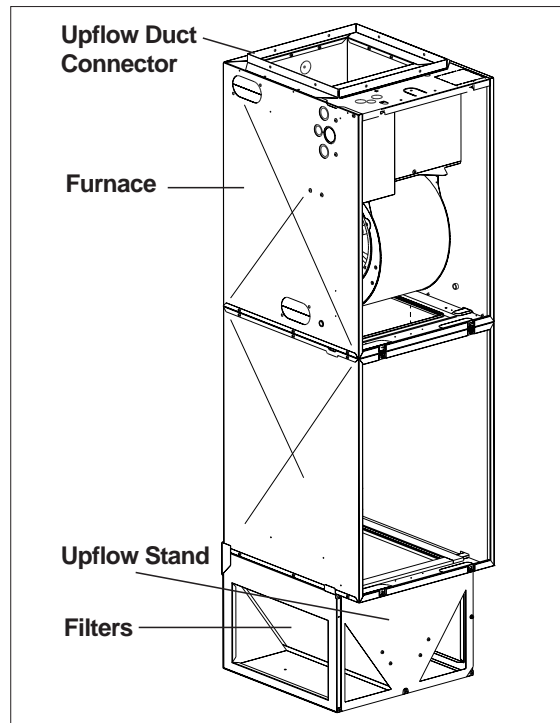

Figure 15. Over-the-Floor Return Air System with Upflow Stand
2. With optional upflow stand: (see Figure 15) -stand must use two filters; one is supplied with the stand and the other MUST be removed from the furnace and placed in the stand - see upflow stand instructions for additional details.
2. Use optional upflow stand with filters or construct a suitably braced mounting platform in closet (see Figure 15 or 16).
6. Use optional upflow duct connector or field supplied connector to attach furnace to overhead supply duct. (see Figure 15)
6. Use optional upflow duct connector or field supplied connector to attach furnace to overhead supply duct (see Figure 15).